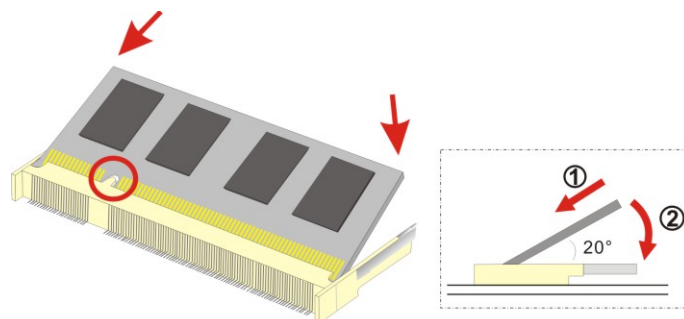

Figure 6-1: SO-DIMM Installation
Step 4: Align the new SO-DIMM with the socket. The SO-DIMM must be oriented in such a way that the notch in the middle of the SO-DIMM must be aligned with the plastic bridge in the socket (Figure 6-1).
Step 5: Insert the SO-DIMM. Push the SO-DIMM chip into the socket at an angle (Figure 6-1).
- Step 6:** **Open the SO-DIMM socket arms.** Gently pull the arms of the SO-DIMM socket out and push the rear of the SO-DIMM down. (See **Figure 6-1**)